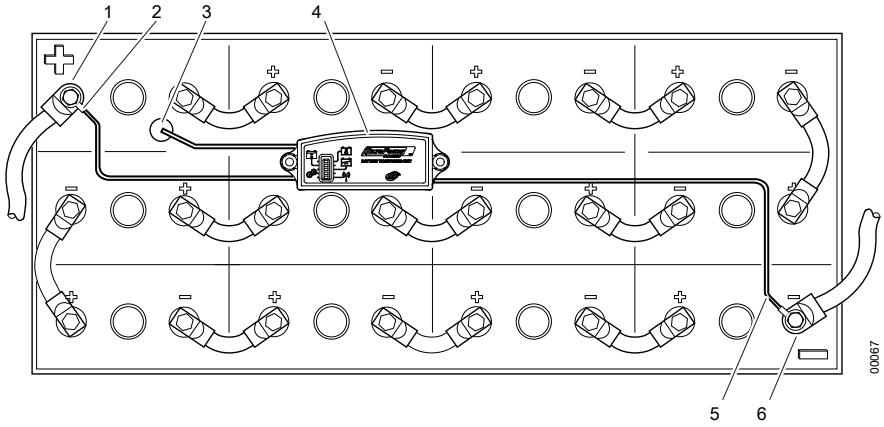

Fig. 1 Access™ BMU installed on the battery
8. Connect the battery monitoring unit's red cable (Fig. 1 pos 2) to the battery's positive terminal (Fig. 1 pos 1).
2. Hold the magnet over the magnetic switch and restart the battery monitoring unit by loosening and then connecting the red cable (Fig. 1 pos 2) from the battery's positive terminal.